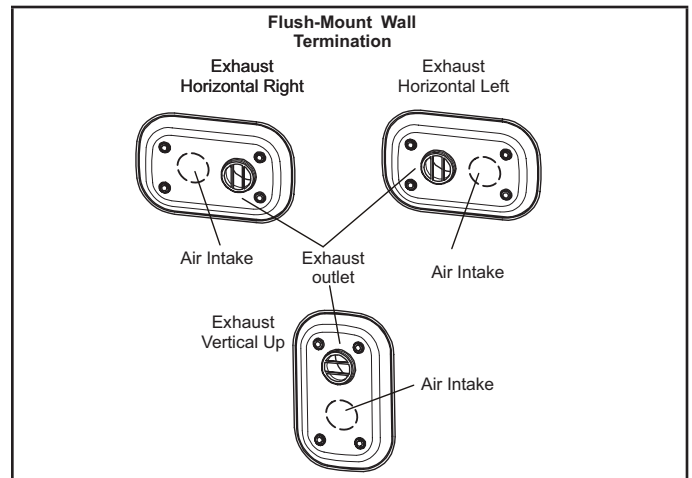

FIGURE 1
- 2 - Exhaust vent pipe can be located horizontally left, right, or vertically up from the air intake pipe. See figure 1.